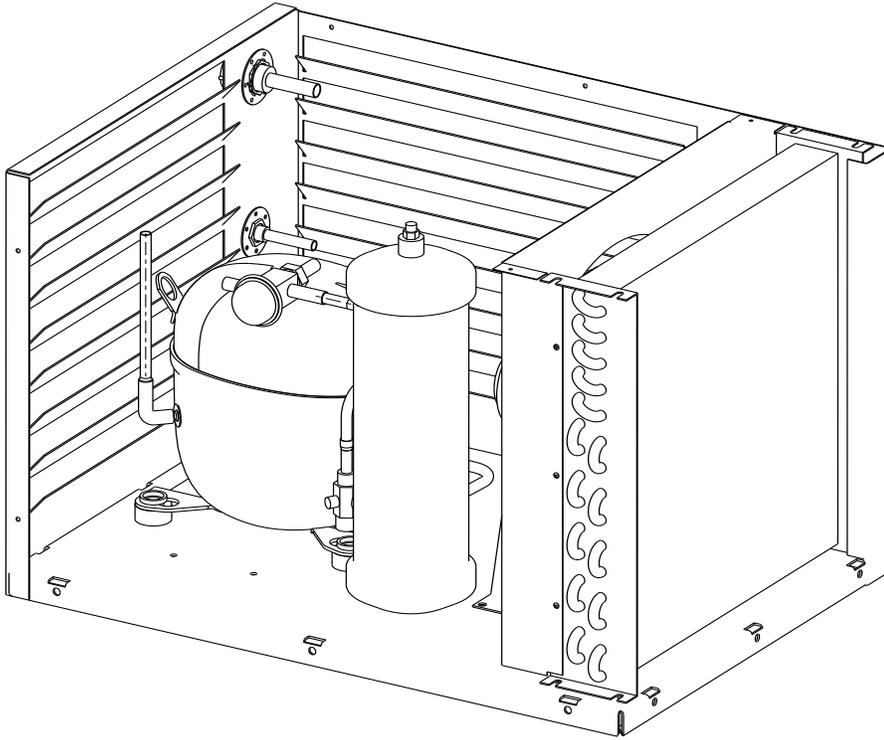

Figure 4. Connection of Low Pressure Switch Tubing
6. Release the Nitrogen from the Compressor. Connect the low pressure switch tubing as shown in Figure 4.